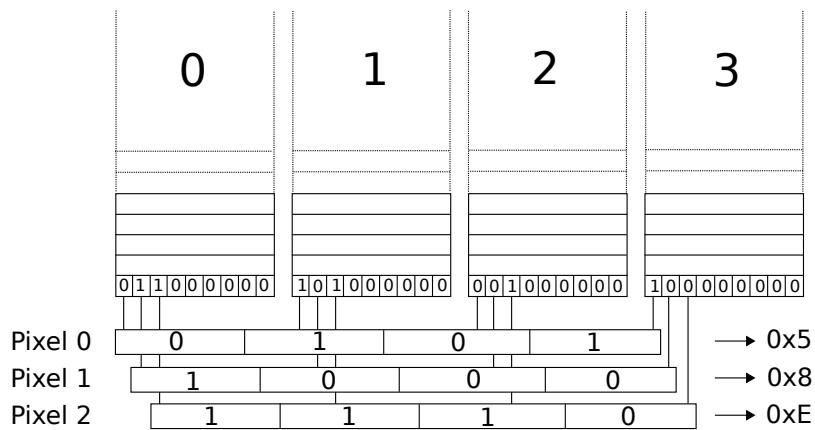

Figure 18: EGA bank layout
To write the color of the first pixel, a developer has to write the first bit of the nibble in plane 0 (R), the second in plane 1 (G), the third in plane 2 (B) and the fourth in plane 3 (I). The CRT Controller then reads 4 bytes at a time (one from each plane) resulting in 8 pixels on screen. So in figure 18 the first pixel has color magenta(05h), second pixel dark grey (08h) and third pixel bright yellow(0Eh).